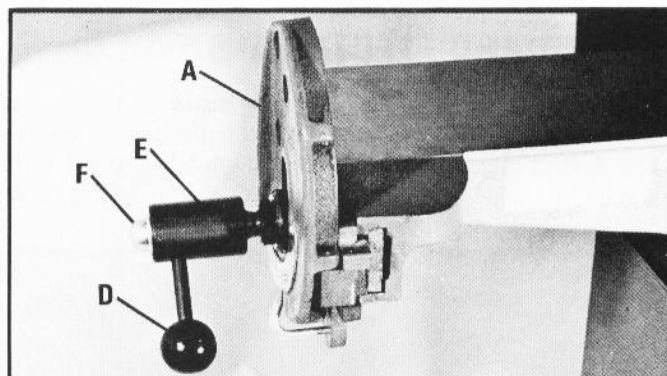
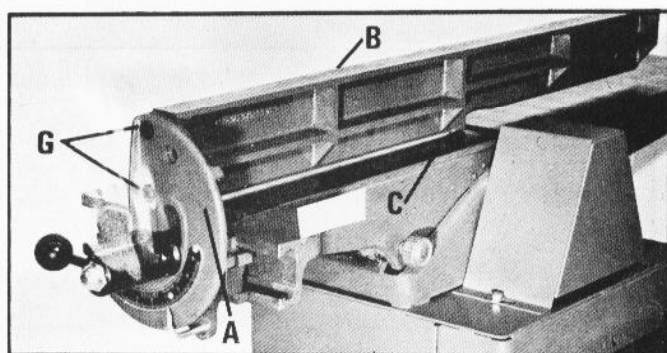

Fig. 6
Fig. 7
Position the fence mounting and adjusting bracket (A) Figs. 6 and 7, so that fence (B) Fig. 7, can rest on infeed table (C) while being assembled to the mounting and adjusting bracket (A).
To move the mounting and adjusting bracket (A) Fig. 6, pull the fence adjusting handle (D) away from the machine until the handle body (E) engages the nut (F) Fig. 6. Loosen the nut (F), move the bracket to the desired position and retighten nut.
Assemble the fence (B) Fig. 7, to the mounting and adjusting bracket (A) using the two socket head cap screws (G) supplied.